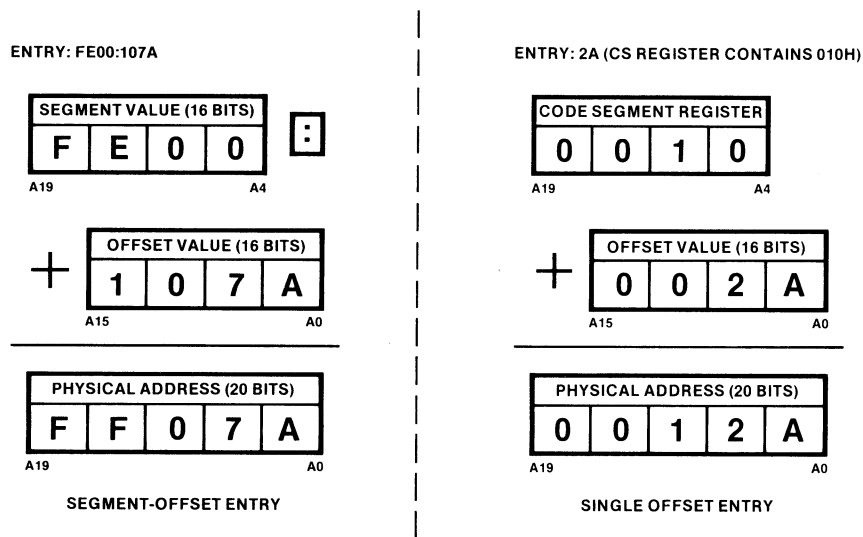

Figure 3-3. Physical Address Calculation
Note that in the following command descriptions, the monitor always calculates a 20-bit physical memory address from a 16-bit segment address value and a 16-bit offset address value. The segment address value is entered first, the “:” key is pressed (to separate the two entries), and then the offset address value is entered. The two values entered, which are displaced from one another by four bits, are added together as shown in Figure 3-3 (Segment-Offset Entry) to form the 20-bit physical memory address. If only one address value is entered (the colon must be omitted), it is interpreted by the monitor as an offset address value entry, and the current contents of the code segment (CS) register are used as the segment address value. The CS register contents and the offset address value entered are combined as shown in the Single Offset Entry example of Figure 3-3 to form the 20-bit physical memory address.